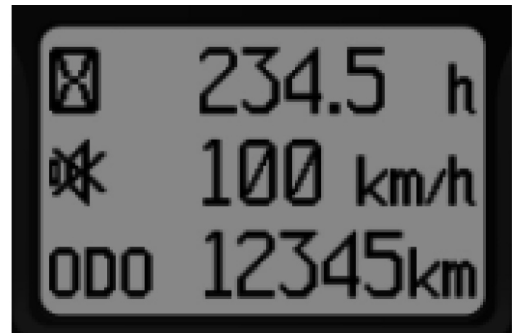

Fig 1
**NOTE:** *The following items list the content and time interval for the maintenance and inspection. The maintenance period may be shorten depending on actual conditions. The extreme heat or dirty environment is needed to be maintained more frequently. For maintenance period, refer to the engine working time shown on the cluster display of the console in cabin. (Fig.1)*